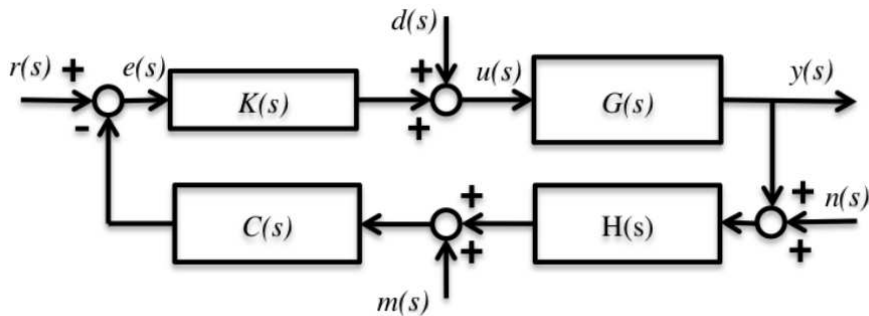

Figure 9.16: Block diagram of Exercise 2.
2. Find the following transfer functions for the block diagram in Figure 9.16: